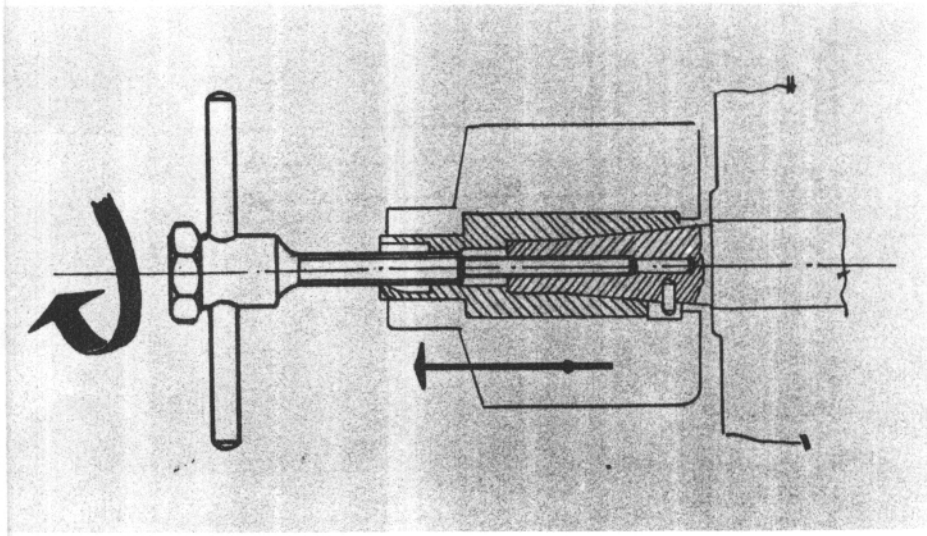

Fig. 14 – Extraction of generator rotor
c) rotor – fixture No. 09 (fig. 14)